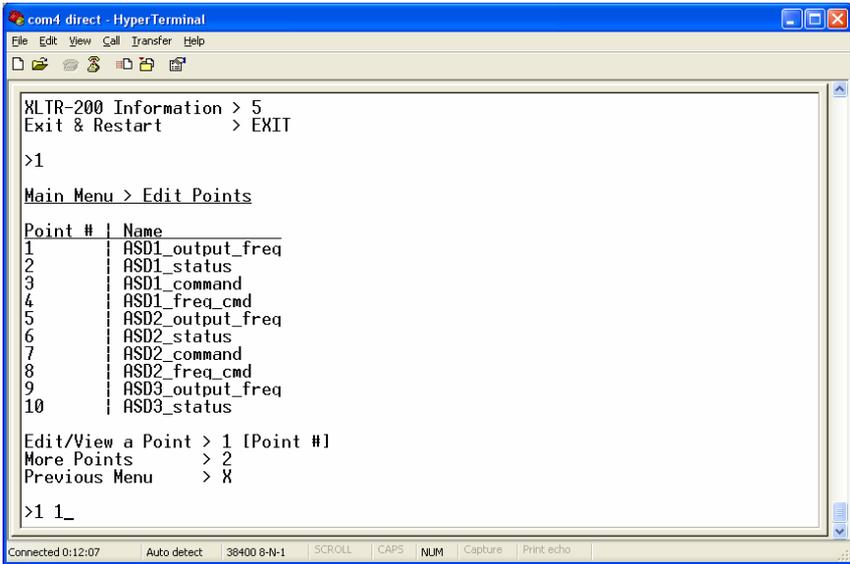
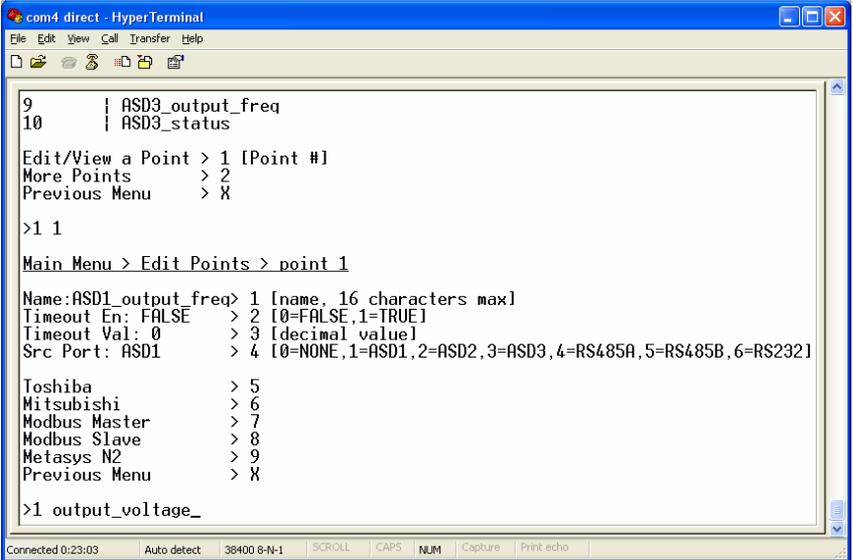

Figure 12: View/Edit Points
Figure 13: Edit a Point
Main menu selection number 1 displays a screen which shows a summary of the current point configuration (see Figure 12). This screen only displays the point number and the point name: in order to access more detailed point information, menu selection number 1 “Edit/View a Point” must be entered with the additional argument of the targeted point’s number. The syntax used to edit/view point #1 is shown at the bottom of Figure 12.
Entering “1” with a point’s number (such as “1 1”, as shown at the bottom of Figure 12) at the Edit Points submenu will display and allow editing of that point’s mapping and definition information. Refer to Figure 13 for an example.
- **Edit Name:** Menu selection number 1 allows you to change the point's name. For example, the bottom of Figure 13 shows an example of changing point #1's name to output_vo1tage. The point's name is purely for user recognition of a point, and has no bearing upon communications functionality. To clear the point's name field, just enter the menu selection ("1") with no additional argument.